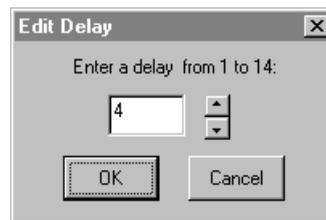

Figure 10.2. Use the Edit Delay dialog box to alter the propagation delay of all selected devices.
- 1 Select a device then choose **Edit > Set Prop Delays** to display the dialog box pictured in Figure 10.2.